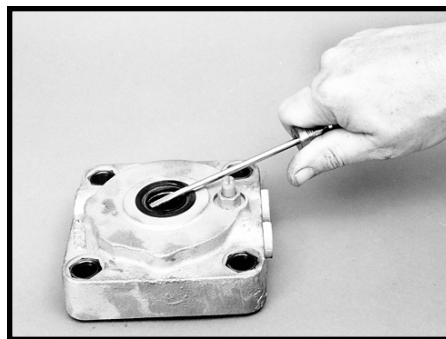

Figure 65
27. Remove and discard the dirt and water seal (4). SEE FIGURE 65.